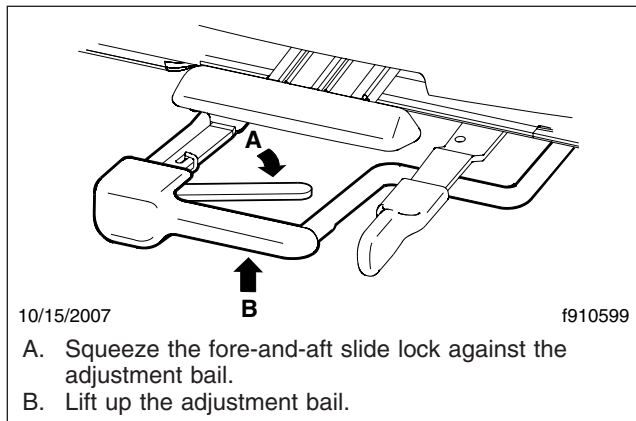

Fig. 9.5, Fore/Aft Slide Adjustment, Sears Atlas Seat
2. *Fore/Aft Seat Slide:* To adjust the fore-and-aft position of the entire seat, squeeze the fore/aft slide lock against the adjustment bail, and lift the bail up. See **Fig. 9.5**. Slide the seat forward or backward to the desired position. Release the bail and fore/aft slide lock, to its original position, to lock the seat in place.